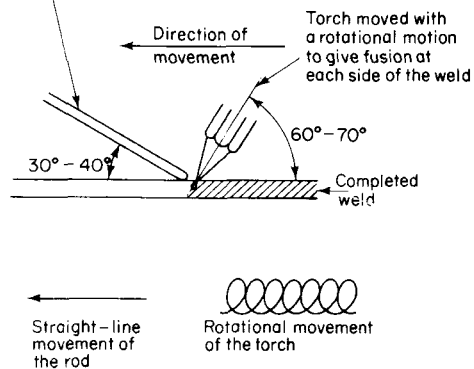

Fig. 4.148 Leftward welding
1. **Leftward welding** which is used for welding steel plate up to 3 mm thick and for welding non-ferrous metals. The method is shown in Fig. 4.148.